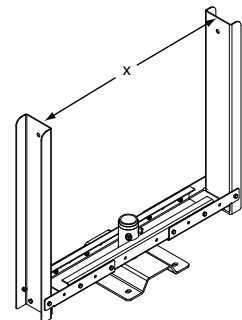

Figure 9 — Fan Width Dimension For Ceiling-Mount Bracket
2. Refer to the table and Figure 9 for appropriate fan width. Align the Rotating Hub between the Arm Sections, slide Arm Section either direction to desired width. Fasten using (4) 5/16 x 3/4 inch fasteners on each side of the Rotating Hub.